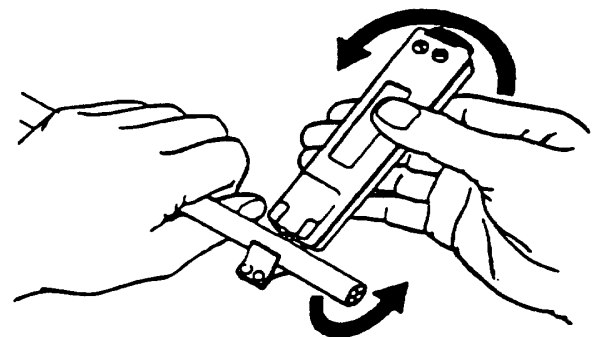

Figure 9. Swivel Blade Stripper Tool, Circular Cut
- Rotate tool around cable jacket to complete circular cut (see Figure 9. If cut is not complete readjust blade depth and repeat the procedure.